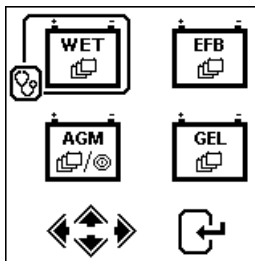

Fig.31
18. Press  key, the screen will show as (Fig.31) below: